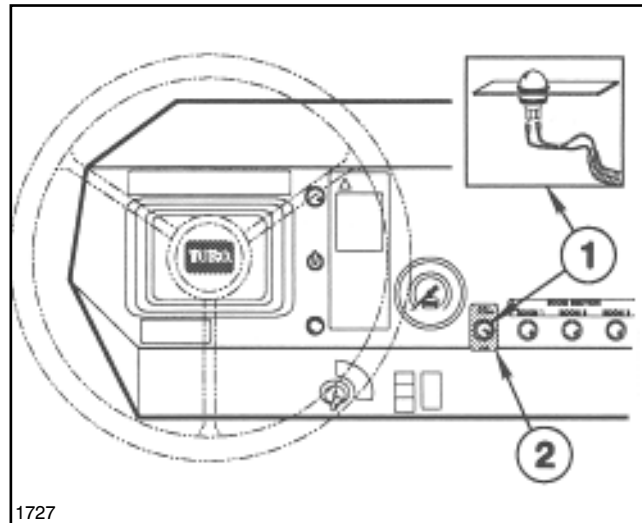

FIG. 3
6. Install Sonic Boom™ Decal and Indicator Light on Dash, and connect Harness Leads to Light. See FIG. 3.